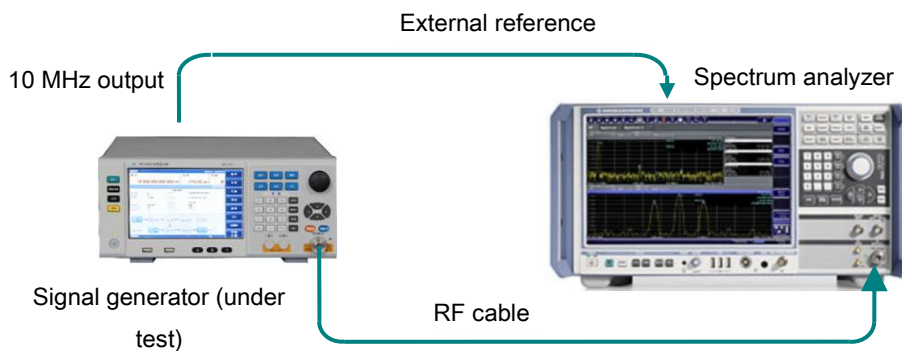

Fig. 8.6 Small amplitude test
2) Connect the spectrum analyzer to the signal generator as shown in Fig. 8.6, set the amplitude of the signal generator to 0dBm, set the level to the reference one; set the amplitude value of the signal generator to the min. fixed amplitude via the relative fixed amplitude mode of the spectrum analyzer, and test the difference P2 relative to its min. fixed amplitude at 0dBm with the spectrum analyzer (P1+P2 is the measured min. output of the fixed amplitude), and record the measured value to the record chart.
- 5) Connect the spectrum analyzer to the signal generator as shown in Fig. 8.6, set the amplitude of the signal generator to 0dBm, reduce the amplitude to the min. indicator amplitude P2 at a stepping of 10dB, test the amplitude difference P3 at each frequency point relative to 0dBm with the spectrum analyzer,